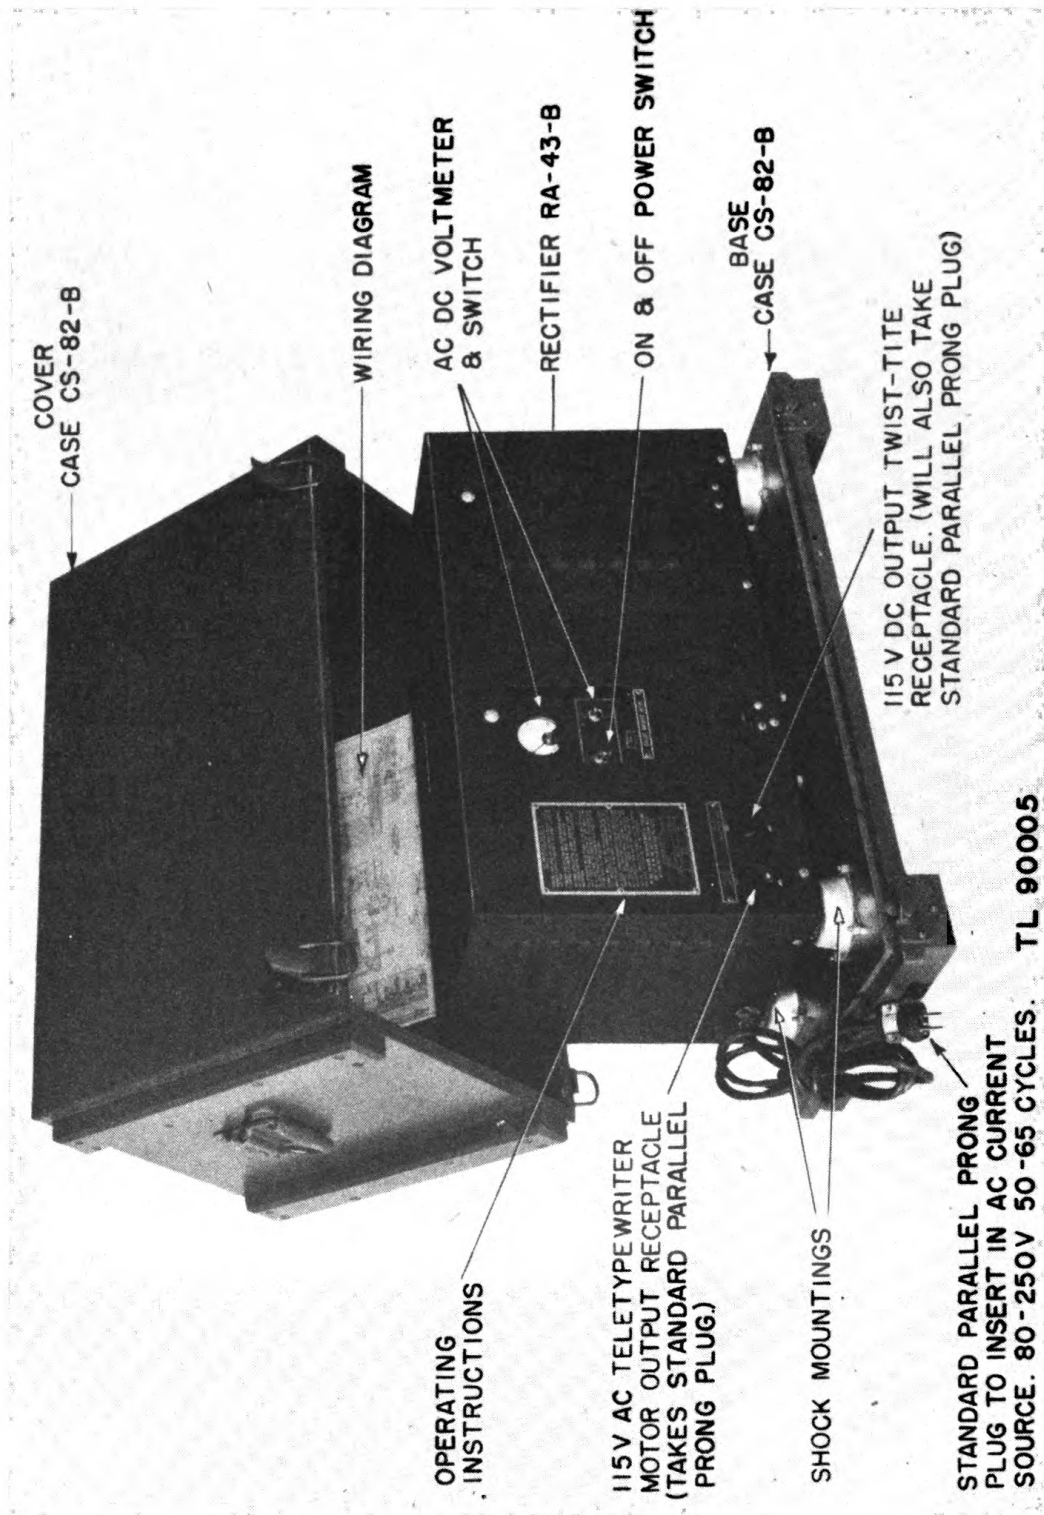

Figure 1. Rectifier RA-43-B, with portable carrying case CS-82-B.
*f.* Operating parts are enclosed in a ventilated steel cabinet. The entire assembly is protected in transportation by a heavy plywood case fitted to the wooden base with fasteners (figs. 1 and 2).
*b. Cover.* The entire assembly is covered by a removable steel cover finished in black wrinkle and provided with ventilating louvres. A hinged door in the front of the cover (fig. 2) permits access to the tubes, adjustable taps, circuit breaker, etc. A cut-out in the door exposes the meter, power switch, and meter switch, which are the only accessible control parts during normal operation of the equipment (fig. 4). For output connections, a-c and d-c receptacles are provided in the lower left corner of the front cover. These are designated by a metal nameplate. A larger metal plate above the receptacles gives condensed operating instructions (fig. 1).
*a.* Case CS-82-B (fig. 1) is constructed of heavy plywood finished in dull olive drab, and is designed for field service. It has four substantial catches to secure it to the reinforced wooden base on which Rectifier RA-43-B is mounted, and is equipped with two metal carrying handles.